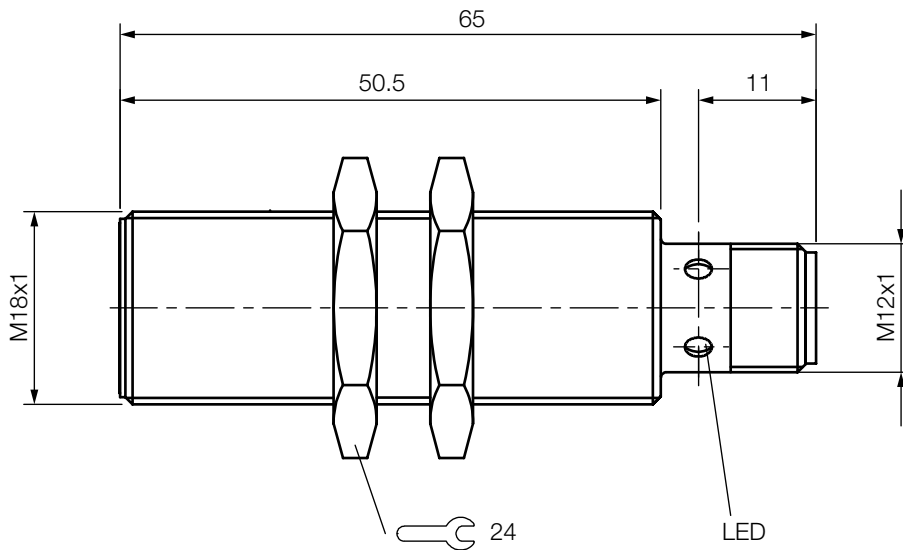

Fig. 4-1: Dimensions, design and function
**i** For dimensions, see Fig. 4-1 on page 7.